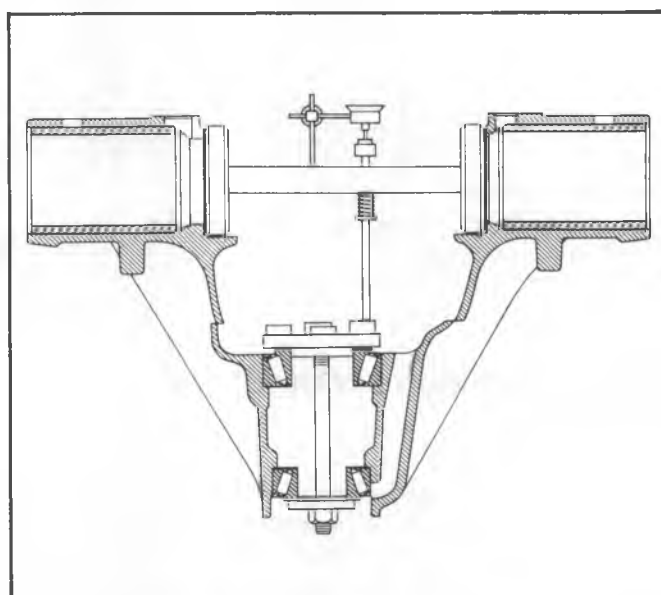

Fig. 0-5-Tool Installed in Carrier
6. Place the arbor and plunger assembly into the carrier, being sure the side bearing discs are seated properly. Install bearing caps to hold discs firmly. See Figure 0-5.